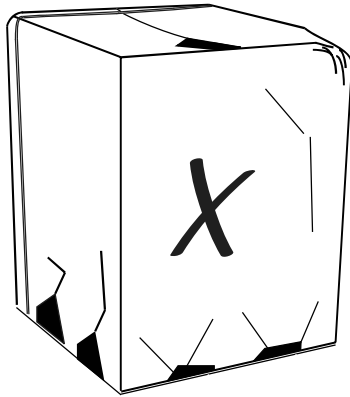

Figure 3-1
- Check for damage and report promptly to the carrier any damage found to the unit (Fig. 3-1).